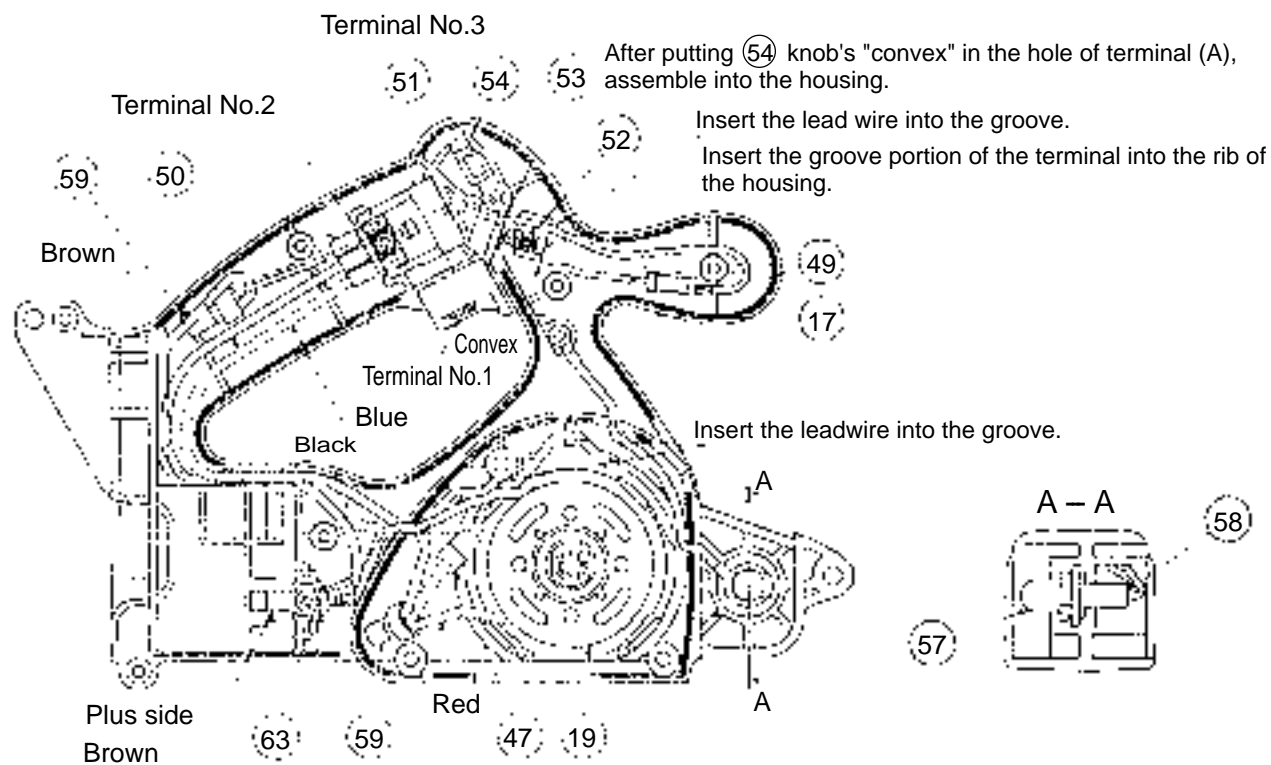

Fig. 8-1
(c) Connect the internal wires as illustrated in Figs. 8-1 and 8-2. Mount the Knob [54], Terminal (A) [53] and Spring (F) [52] without fail.